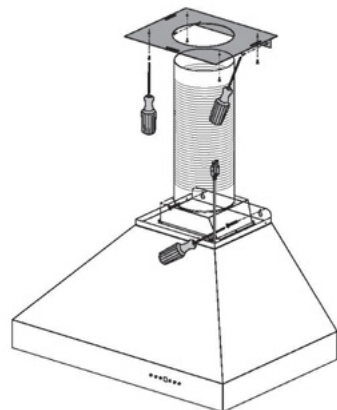

Figure 8
9. Mark the mounting points and install the two mounting screws provided leaving the heads out $\frac{1}{4}$ " to mount the hood. *Figure 8*